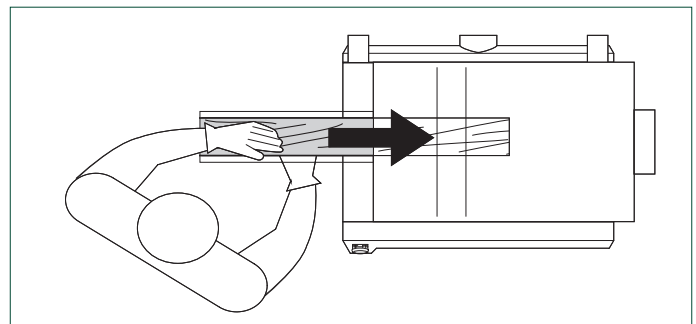

FIG. 7
1. To feed the workpiece into the machine, assume proper operating position, FIG. 7. Stand offset to one side of the feed opening to avoid any kick-back, should it occur. Do not push the lumber once the infeed roller has been engaged. Let the infeed roller move the workpiece into the planer at its own pace.